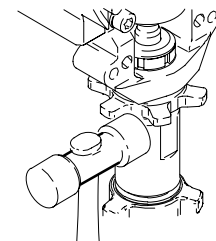

Fig. 16
Fig. 16. Screw jam nut down onto pump until it stops. Screw pump up into bearing housing until it is stopped by jam nut. Back off pump and jam nut to align pump outlet with opening in cover (134). Tighten jam nut by hand, then tap 1/8 turn with a plastic hammer to approximately 75 +/-5 ft-lb (102 N·m).